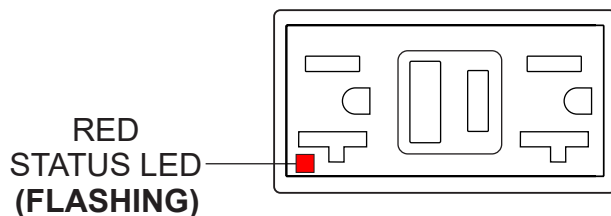

Figure 60. GFCI Receptacle (Red Flashing LED)
6. If the **status LED** (Figure 60) is **flashing (RED)**, **DO NOT** use the GFCI receptacle. Replace it immediately.